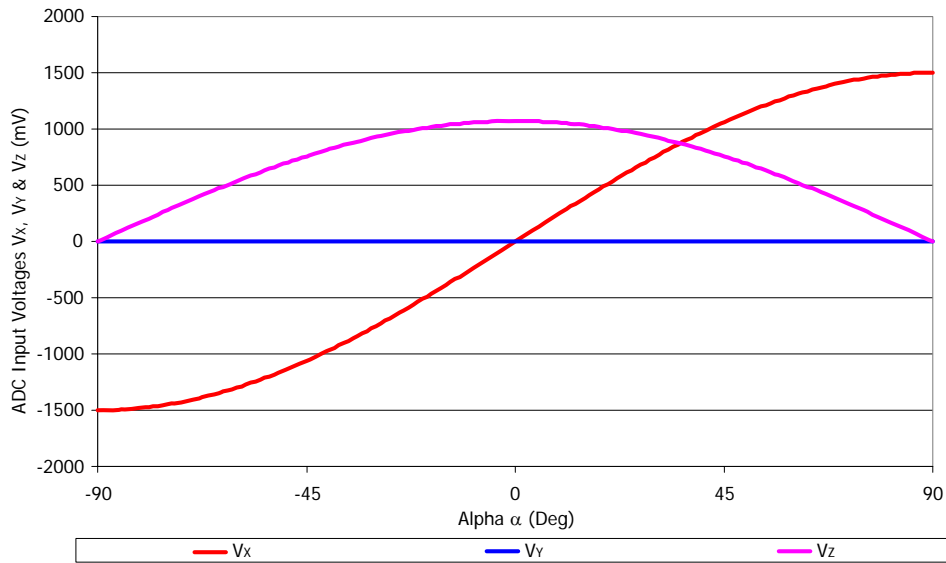
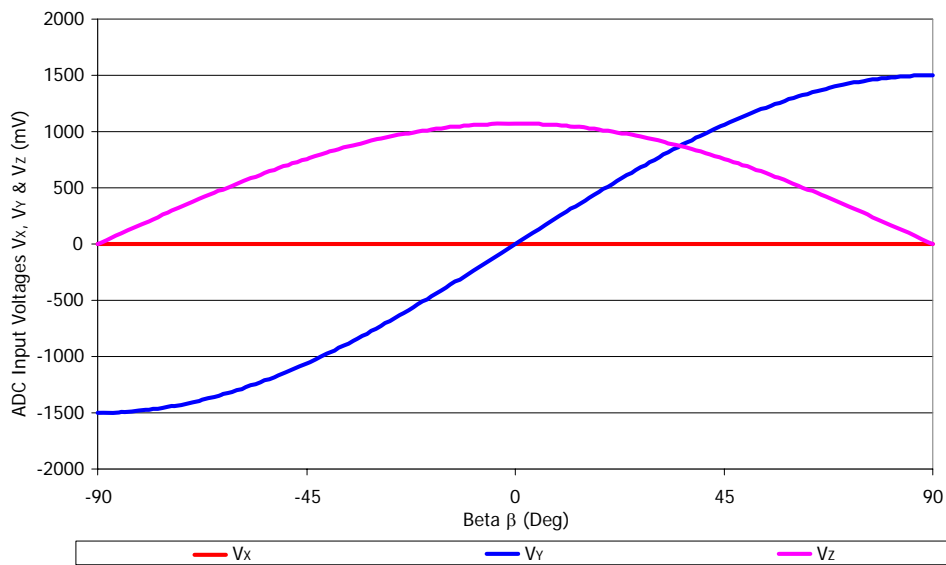

Figure 8 – ADC Input Signals – $\beta = 0$ Deg – $V_x \propto B_x \propto \sin(\alpha)$, $V_y = B_y = 0$ & $V_z \propto B_z \propto \cos(\alpha)$
Figure 9 – ADC Input Signals – $\alpha = 0$ Deg – $V_x = B_x = 0$, $V_y \propto B_y \propto \sin(\beta)$ & $V_z \propto B_z \propto \cos(\beta)$
Three (3) differential voltages corresponding to the three (3) components of the applied flux density are provided to the ADC (Analog-to-Digital Converter – Figure 8 and Figure 9). The Hall signals are processed through a fully differential analog chain featuring the classic offset cancellation technique (Hall plate quadrature spinning and chopper-stabilized amplifier).